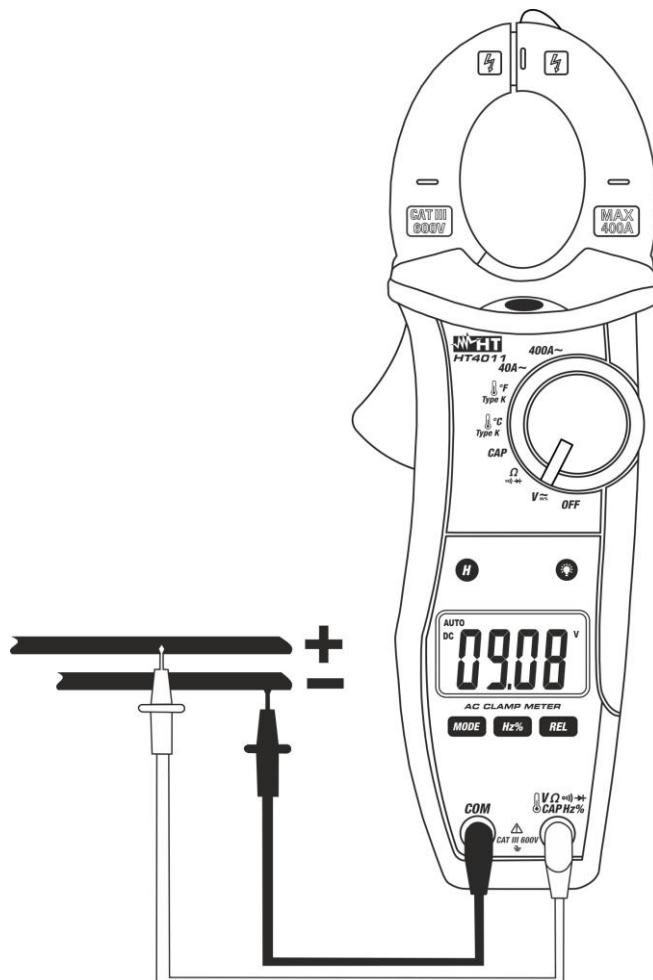

Fig. 3: Use of the clamp for DC Voltage measurement
3. Position the test leads in the desired points of the circuit to be measured (see Fig. 3). The display shows the value of voltage.
5. When symbol “-” appears on the instrument’s display, it means that voltage has the opposite direction with respect to the connection in Fig. 3